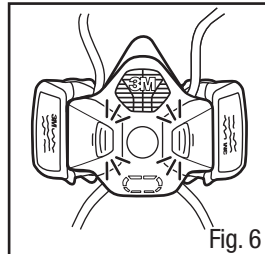

Fig. 6
2. Push the cartridge into the connector until you hear a click and the blue cartridge/filter release button raises back to its initial position (Fig. 6).